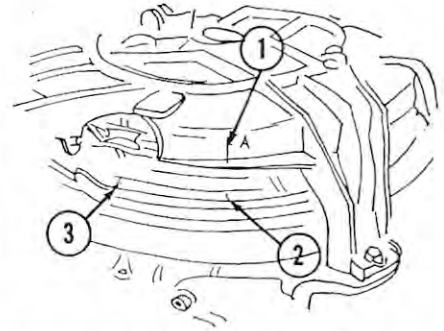

Fig. Mc116 — Manual starting Royal Scott motor showing timing marks. Other two cylinder models are similar.
On late model manual start models, it will be necessary to adjust the static advance of the magneto. To check the adjustment, remove the recoil starter and flywheel, then disconnect the coil primary wire and ground wire for the top cylinder and the stop switch wires. Attach one lead of a test light (See Fig. Mc108) to the wire leading to the insulated point for the top cylinder and ground the other test lead. Temporarily install the flywheel and recoil starter. Place the shift lever in "Forward" position and fully advance the speed control lever. Turn the flywheel until the second (advance) timing mark (2—Fig. Mc116) on flywheel aligns with the "A" timing mark (1) on starter housing. With the points properly adjusted, shorten or lengthen the spark advance link (A—Fig. Mc106) until the test light just goes out, indicating that the points have opened. This procedure adjusts the advance timing to the recommended 31° BTC position.